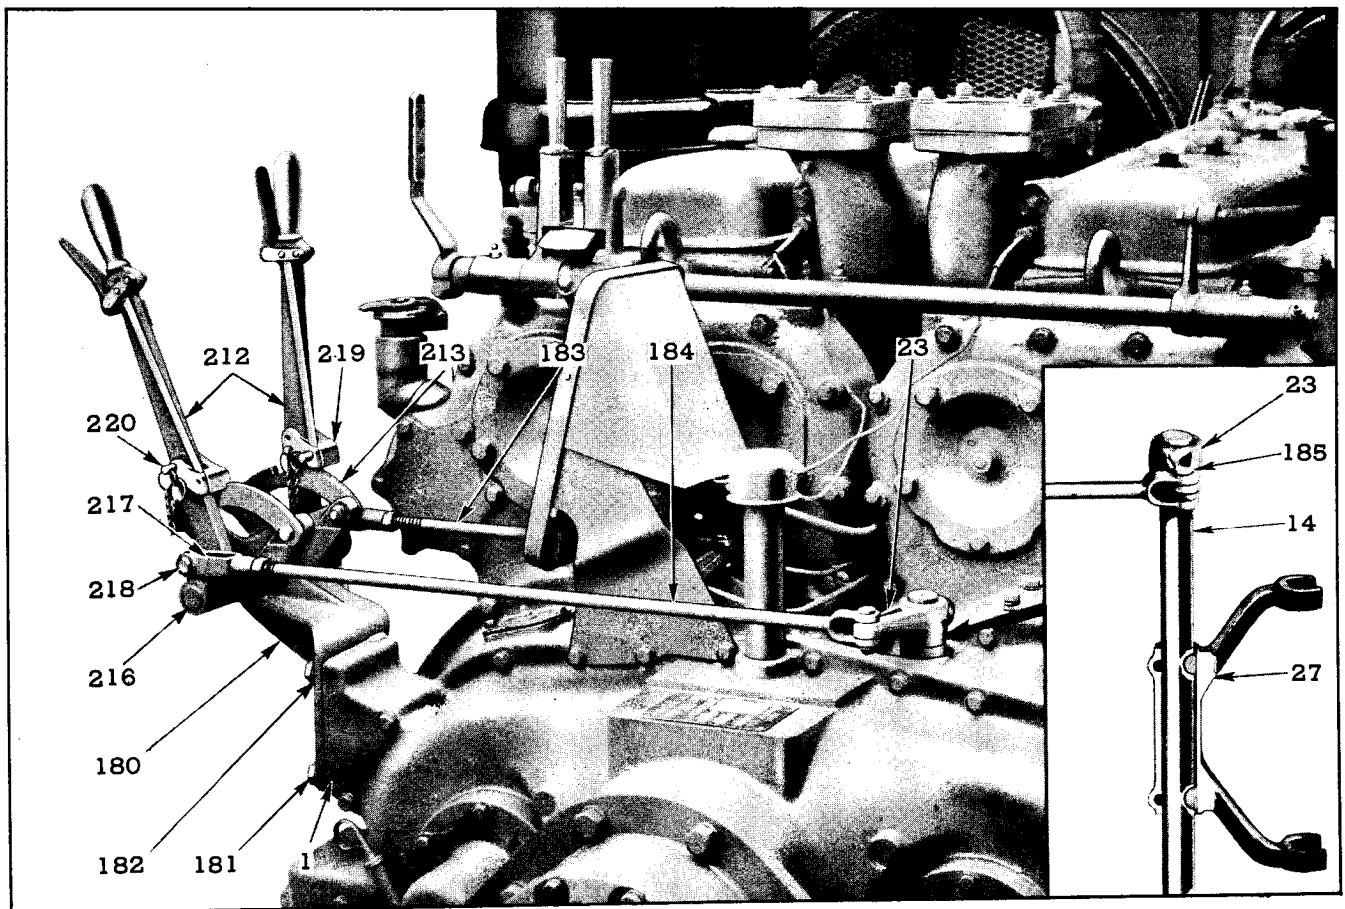

Fig. 6—Clutch Control Mechanism.
Each clutch is controlled by an individual hand lever mounted on a shaft (216) common to the two levers, as shown in Fig. 6. Shaft (216) is supported in a bracket (180) which in turn is bolted to the side of the gear box. Clutches are disengaged by pulling the levers away from the engines.
When the clutch is engaged, the lockout latch (219) rides on the lever quadrant (213) and, when the clutch is disengaged, the lockout latch enters notch in quadrant and is secured by inserting lockout pin (220) through holes of lockout latch (219) and lever (212), as shown in Fig. 6.